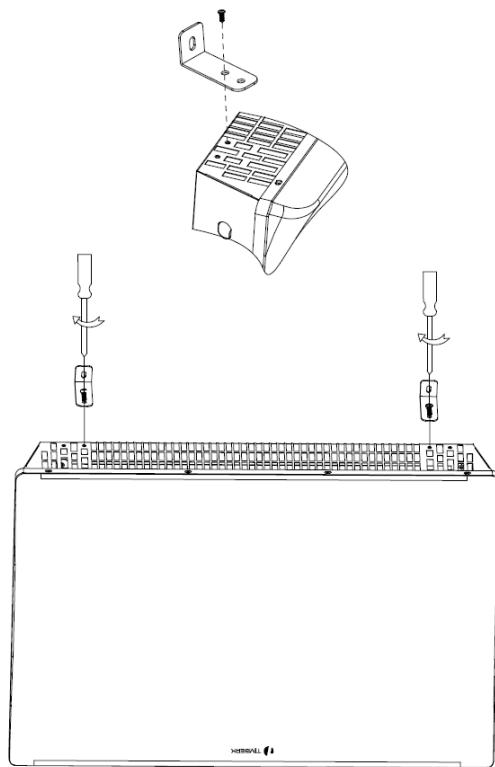

Fig. 5
5. Turn the device over, fasten the fasteners with the screwdriver and screws to the bottom of the device on the left and right sides (Fig. 5).